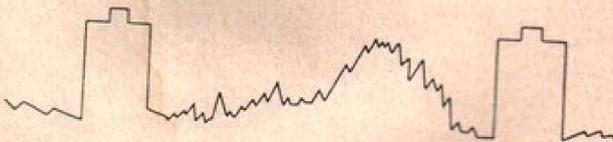
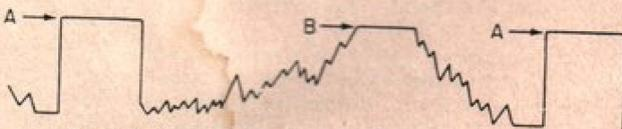

Figure 4—Normal Video and Sync Signal.
Figure 5—Overloaded or Clipped Video and Sync Signal.
After detection, a video signal normally appears as shown in Figure 4. If the signal is clipped in an I.F. stage it will look like Figure 5. Now the horizontal oscillator will try to synchronize both on the blanking signal (A) and on the very black portions of the video (B). This results in pulling or snaking of the picture.